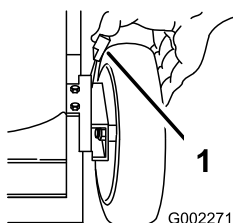

Figure 21
1. Pull the wheel height adjustment lever toward the wheel (Figure 21) and move it to the desired setting.